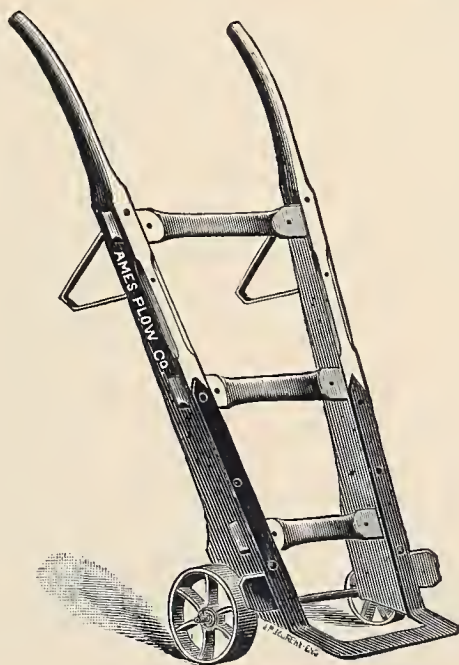

Fig. 503.—Ames Store-Truck, for Barrels.
*The Ames Store-Truck, with Curved Wood Bars, for Barrels,* represented by *Fig. 503*, especially adapted for moving barrels, casks, etc., is intended for